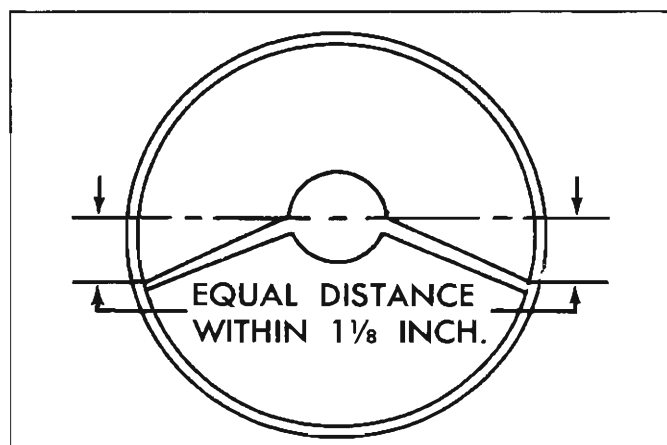

Fig. 4—Steering Wheel Alignment
5. With wheels in a straight ahead position and the steering gear on highpoint check the steering wheel alignment by measuring the distance from each spoke to the horizontal centerline of the steering wheel (fig. 4). If the difference in dimension is greater than 1-1/8 inches the wheel should be removed and centered. (See Steering Wheel Removal in this section.)